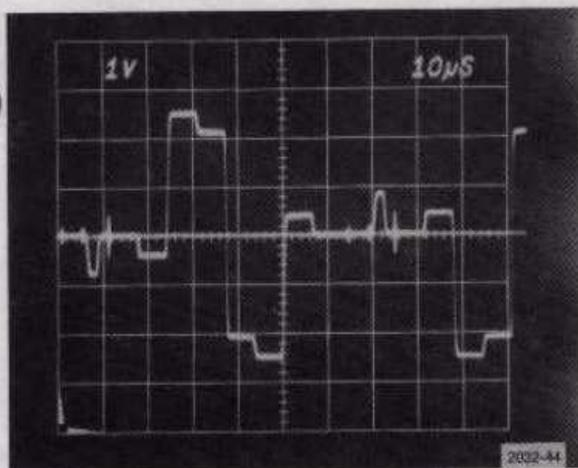

Fig. 5-3. Typical waveform at TP1919.
g. CHECK—that all color dots fall within 1° of the B-Y (U) axis graticule line.
h. Set the video generator Color Bar R-Y (V) switch on.
b. CHECK—that the demodulated R-Y (V) chrominance is free from rolloff, peaking, and ringing. See Fig. 5-3.